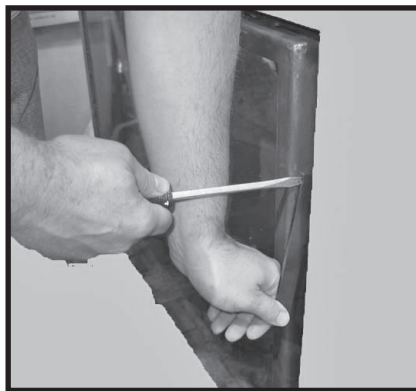
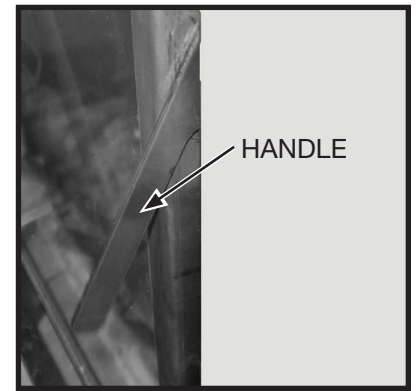

Figure 5: Accessing handle.
Figure 6: Handle.
2. Using a screwdriver (Figure 5) or other similar object, push against the notch in the top of the latch and grab the bottom of the latch handle as it protrudes (Figure 6). Lift handle until latch hook disengages. Repeat for other side while holding glass so it does not tip out.